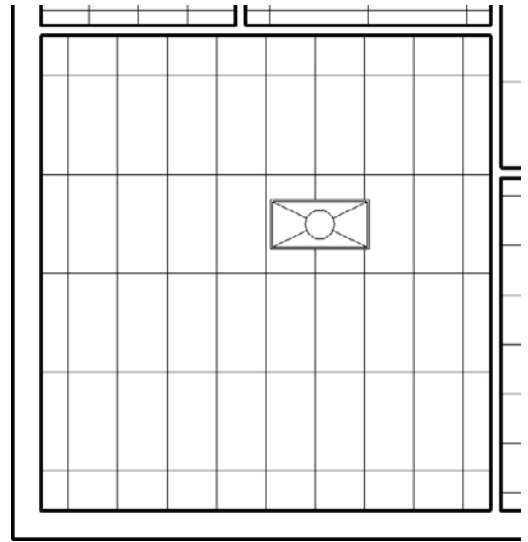

Figure 3.103
5. In the drawing window, click somewhere in the middle of southwest corner ceiling to place the light (Figure 3.103). The exact placement and rotation are not important. Click Esc twice to exit the Component tool.